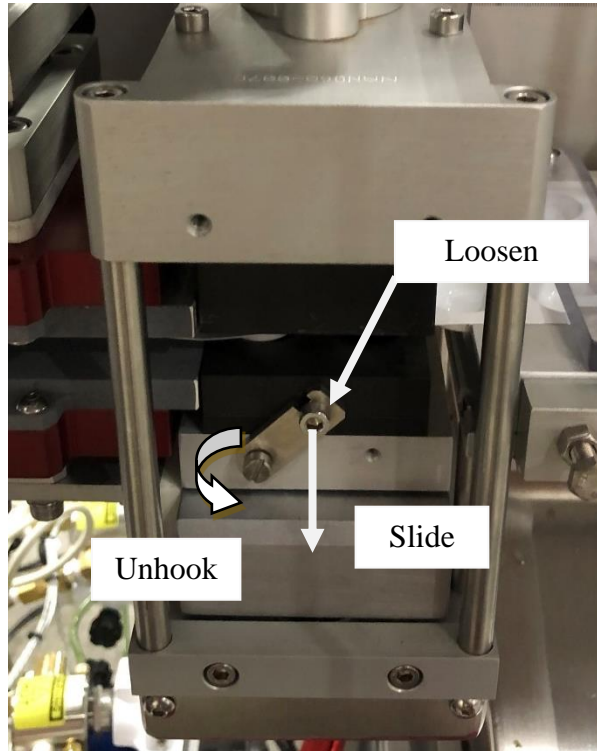

Figure 7
- Lift lower forming die off (2) dowel pins located on bottom base plate. (Figure 7)